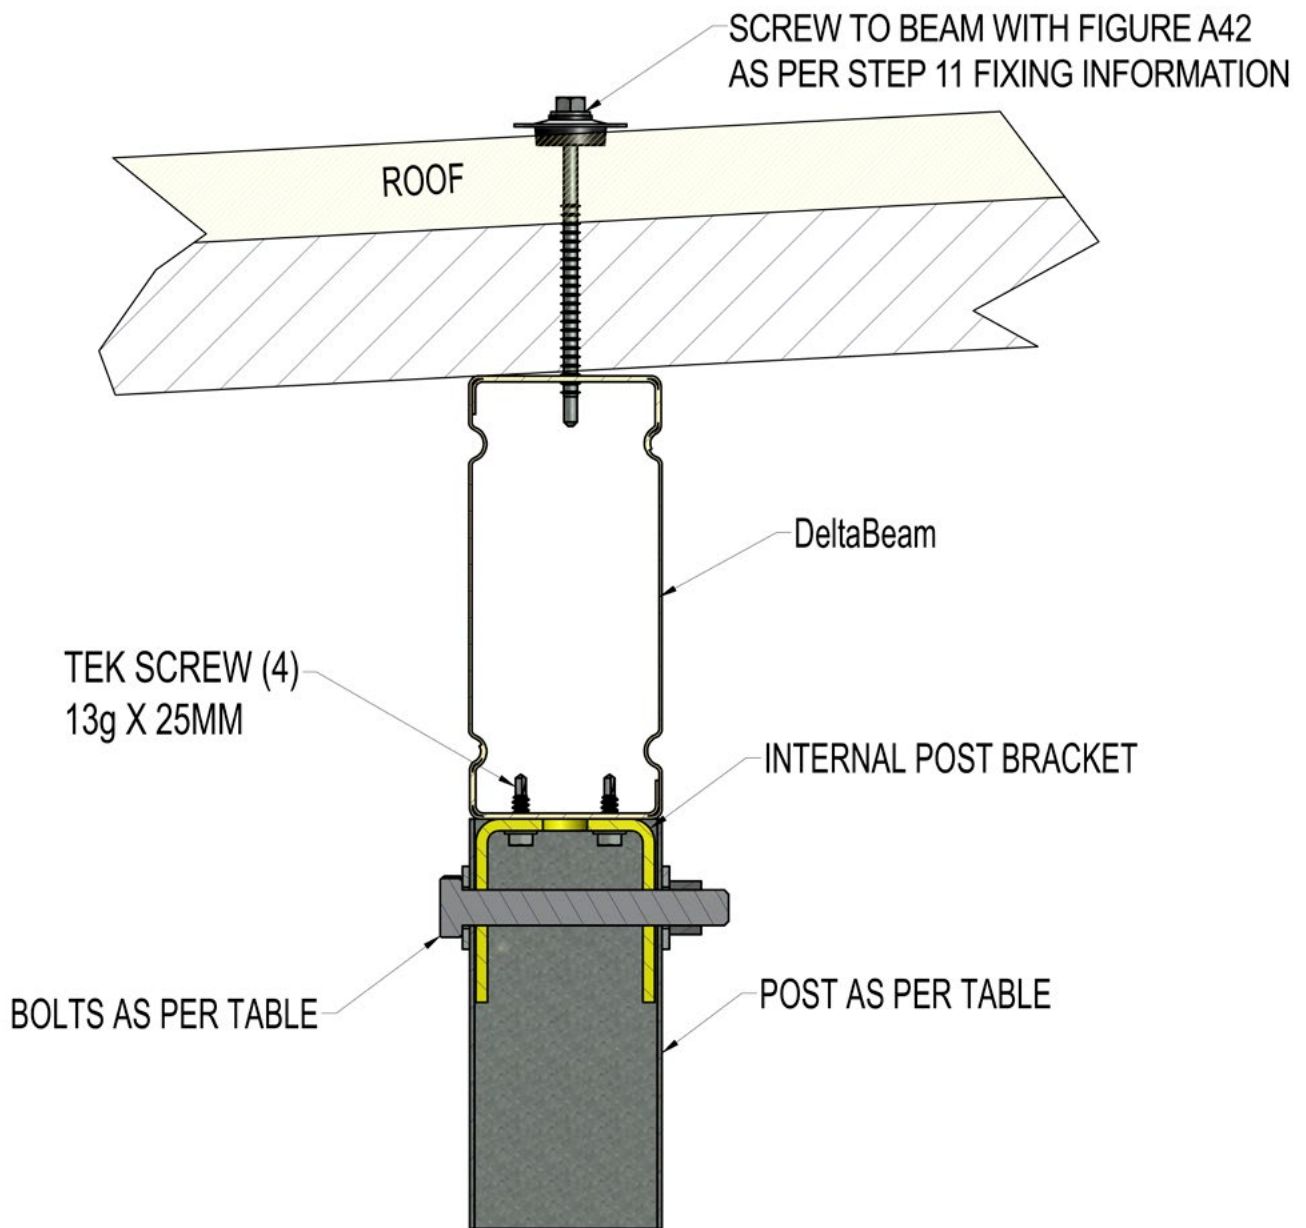

Figure A22
**Delta™ Steel or Aluminium Beam to Post (see Figure A22)**